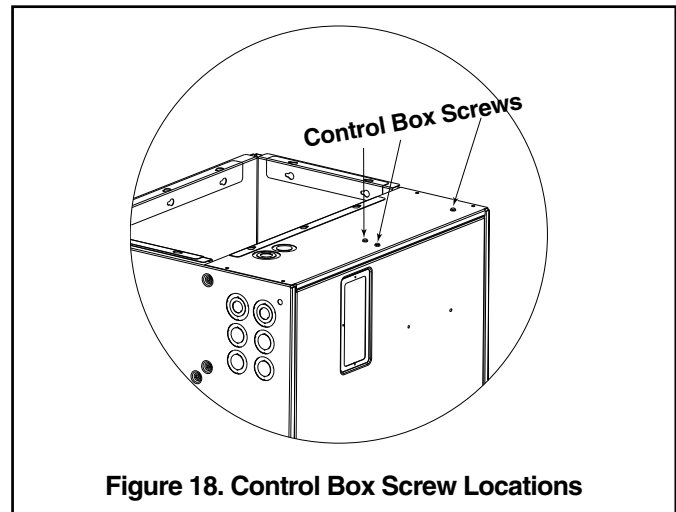

Figure 18. Control Box Screw Locations
COMM Control box must be removed to install or service heater accessory. See Figure 18.
**IMPORTANT: Do NOT cover up control box screws with duct work. See Figure 18.**